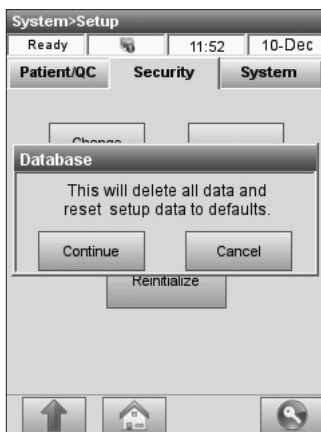

Fig. 3-69 Reinitialize
4. A message will be displayed asking you to confirm your choice (Fig. 3-69).